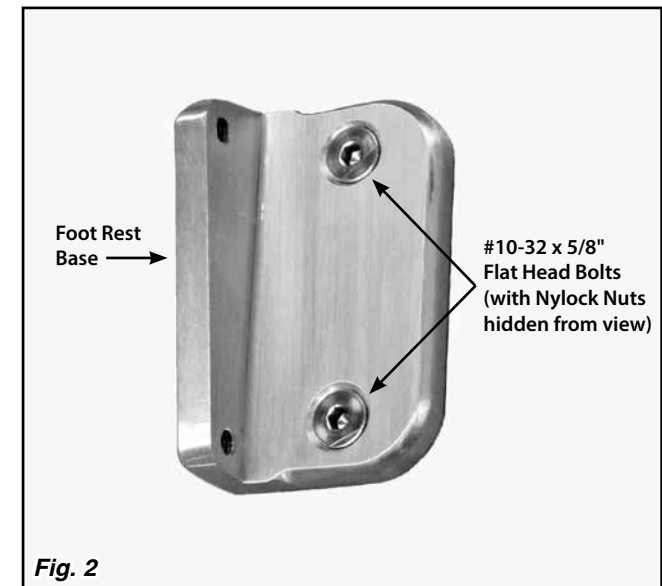

Fig. 2
Step 4: Install the foot rest base onto the floorboard using the #10-32 x 5/8" flat head bolts and nylock nuts. Tighten using a 1/8" Allen wrench. **Fig. 2**